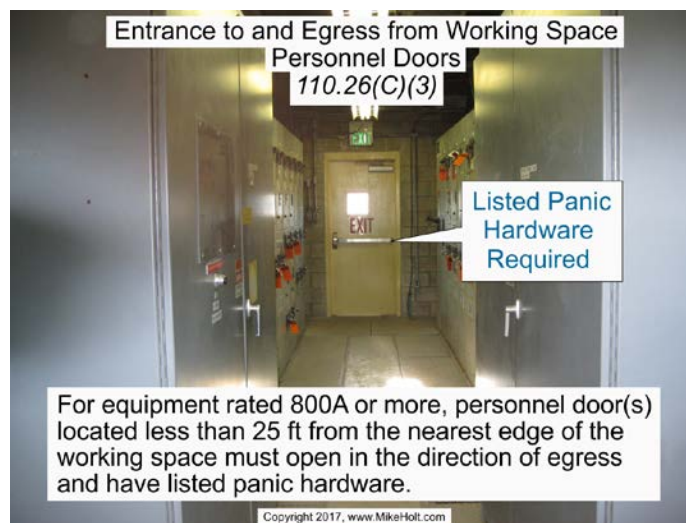

Figure 110-42
(3) Personnel Doors. If equipment with overcurrent or switching devices rated 800A or more is installed, personnel door(s) for entrance to and egress from the working space located less than 25 ft from the nearest edge of the working space must have the door(s) open in the direction of egress and be equipped with listed panic hardware. Figure 110-42